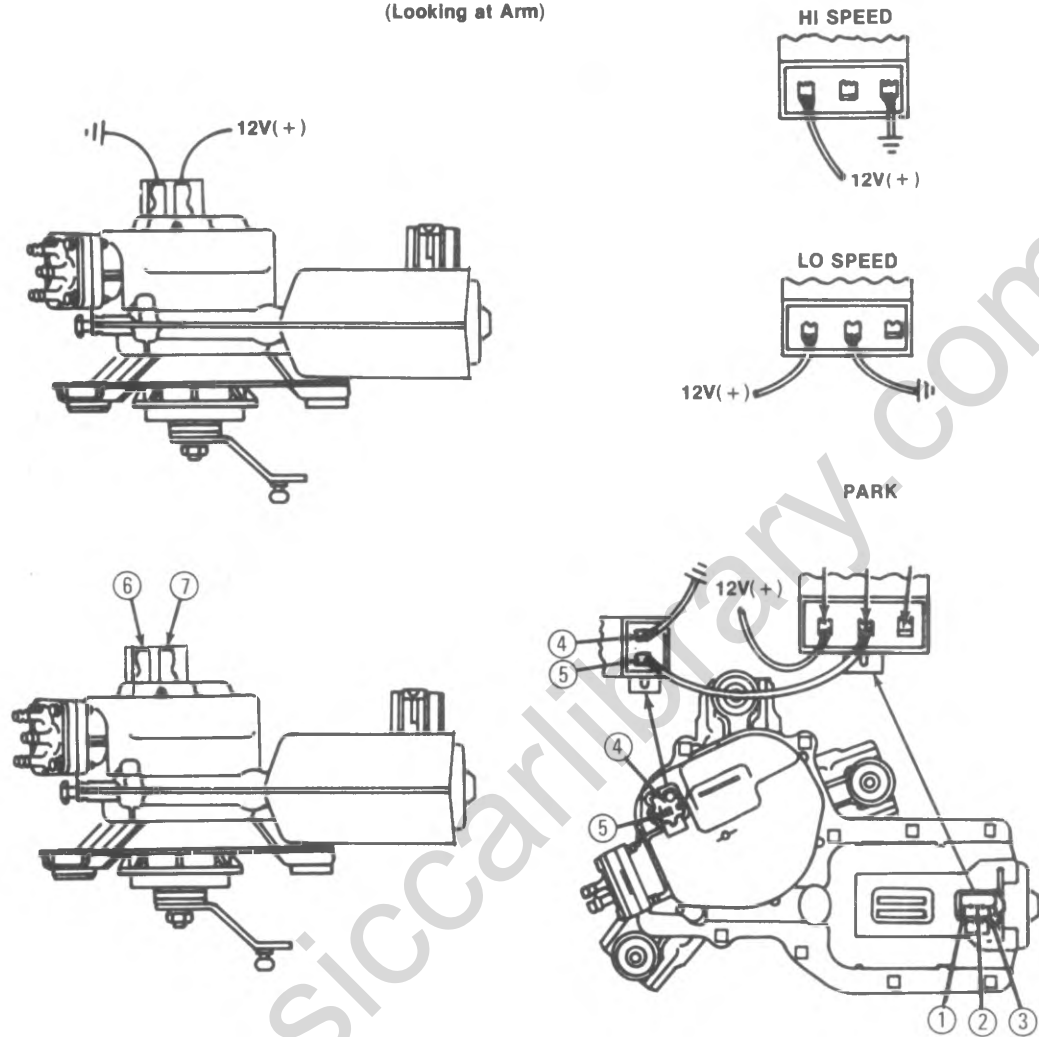

Fig. 8-11--Checking Motor Operation
This is part of the washer pump relay coil assembly. Refer to figure 8-11.
4. To re-assemble, reverse steps 1 thru 3 and check wiper operation, figure 8-11.
in position figure 8-11.